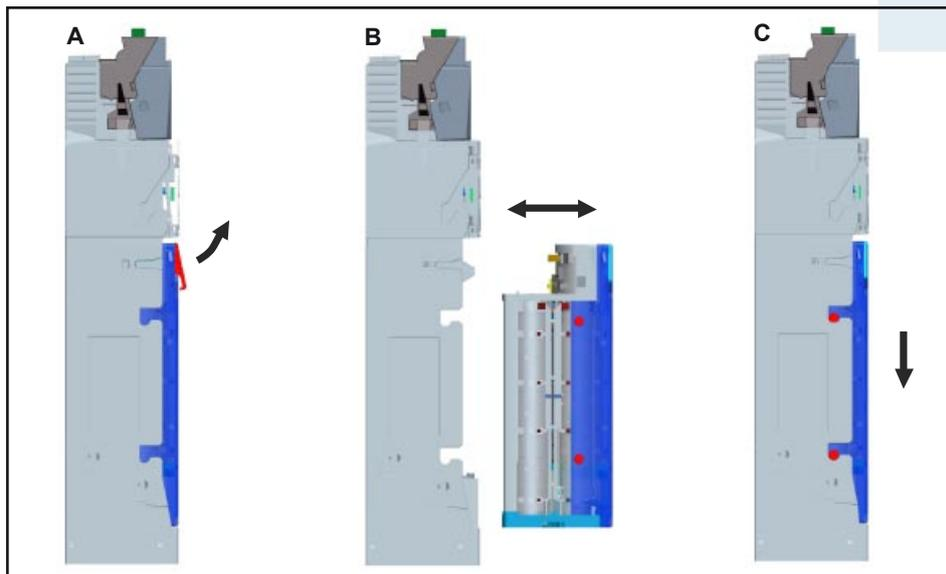

Fig. 4: Removing and reinstalling coin cassette
- Pull latch (Fig. 4, A).
- Pull cassette straight out of the housing guides to the front (Fig. 4, B).
- Insert cassette in upper and lower housing guides (Fig. 4, B).
- Press cassette down and let it engage in the upper and lower housing guides (audible click) (Fig. 4, C).